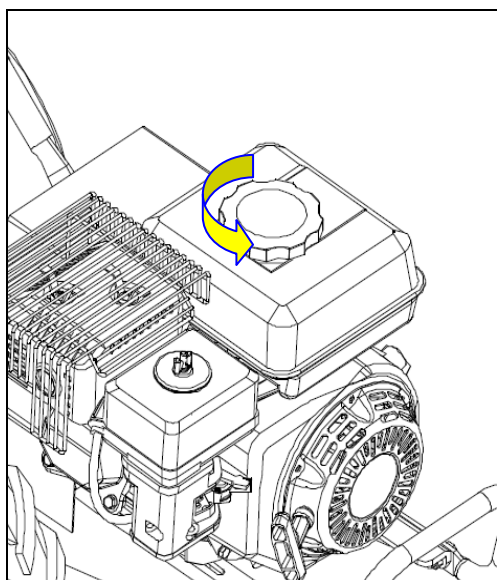

Fig.32
2. Unscrew and remove the fuel tank cap (Fig.32) and use a proper fuel pump to empty the fuel into a suitable container.